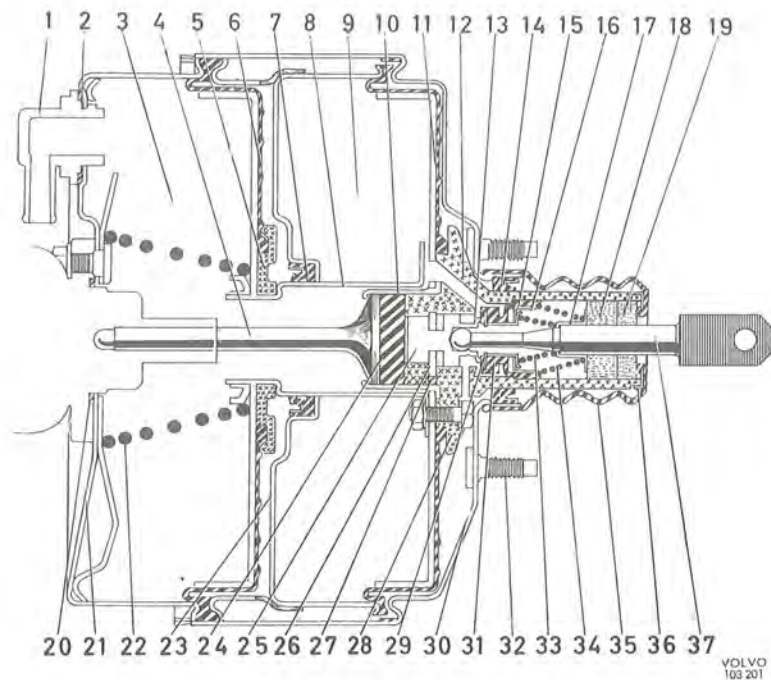

Fig. 5-70. Servo cylinder
This is a mechanical tandem-type servo device located between the brake pedal and the master cylinder, see Fig. 5-6. Due to the servo cylinder, which is assisted by vacuum from the engine induction manifold, less pedal pressure is required when braking. The construction as well as the designation and location of the parts are shown in Fig. 5-70. The servo cylinder function as follows.
5. Lift up the brake pedal. Remove the rubber cover (35, Fig. 5-70).
1. Check that the rubber cover (35, Fig. 5-70) is pressed down properly at the protective washer for the cleaner. Secure the fork to the link arm. Push in the servo cylinder so that the attaching bolts come into position.